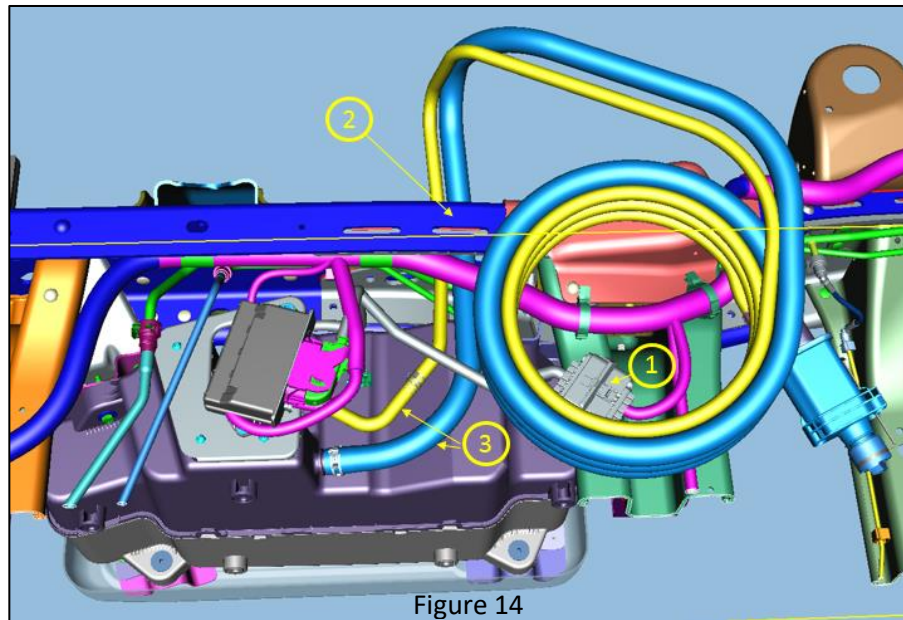

Figure 14
18. Inspect and clean as required the connector prior to reconnecting the DEF main harness (item 1/figure 14).
19. Route Fill and Vent lines through frame hole opening (item 2/figure 14)
20. Connect Fill and Vent lines to tank (item 3/figure 14)